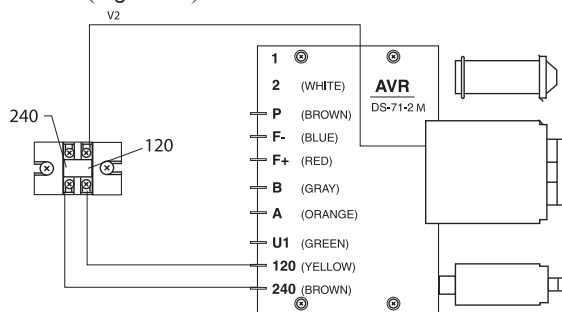

Figure 20: Control Terminal Board, 120 Volt Output
- 120 volt output can be selected by connecting the terminals of the control terminal board to 120 (Figure 20).